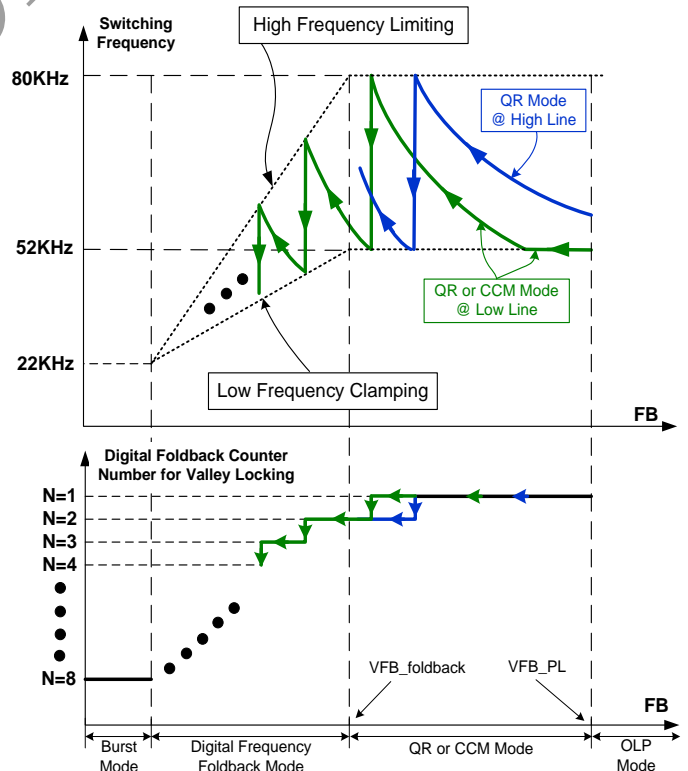
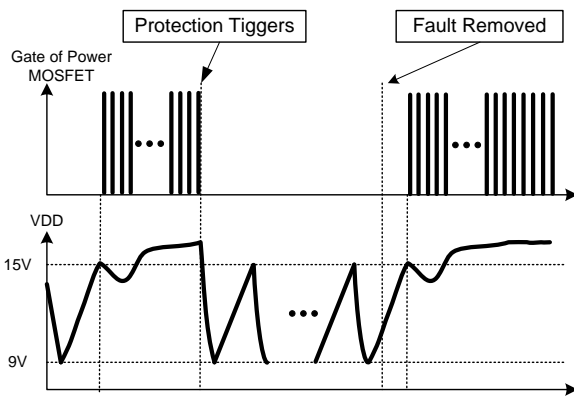

Fig.3
Fig.8
■ At normal or full loading conditions, the operating mode is CCM when the input is in low line range since the low clamping frequency (52KHz typical) is touched. Thus, small size transformer can be used with high power conversion efficiency. When the input is in high line input range, the IC work in QR mode with high frequency clamping (typical 80KHz), as shown in Fig.3. When FB voltage is larger than VFB\_PL, the system enters into OLP mode with auto recovery protection (as illustrated in Fig.8).
between “High Frequency Limiting” and “Low Frequency Clamping”, as shown with the dashed line in Fig.3. In “**Digital Frequency Foldback**” mode, the IC locks the switching valley and selects the valley according to the load changes. There is a counter in SF5879, the IC selects the valleys according to the registered counter number. In SF5879, the maximum counting number is 8.
As shown in Fig.8, once a fault condition is detected, switching will stop. This will cause VDD to fall because no power is delivered from the auxiliary winding. When VDD falls to UVLO(off) (typical 9V), the protection is reset and the operating current reduces to the startup current, which causes VDD to rise, as shown in Fig.8. However, if the fault still exists, the system will experience the above mentioned process. If the fault has gone, the system resumes normal operation. In this manner, the auto restart can alternatively enable and disable the switching until the fault condition is disappeared.